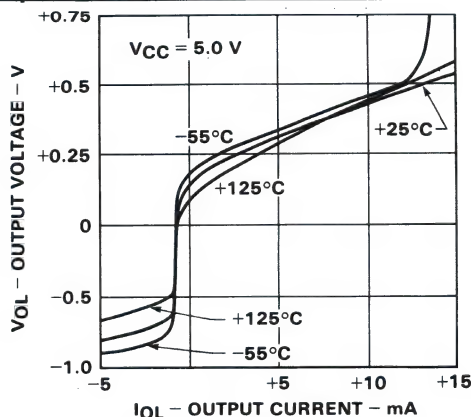

Fig. 2-7 TYPICAL OUTPUT CURRENT-VOLTAGE CHARACTERISTIC
**OUTPUT CHARACTERISTICS.** Figure 2-7 shows the LOW-state output characteristics. For LOW  $I_{OL}$  values, the pull-down transistor is clamped out of deep saturation to shorten the turn-off delay. The curves also show the clamping effect when  $I_{OL}$  tends to go negative, as it often does due to reflections on a long interconnection after a negative-going transition. This clamping effect helps to minimize ringing.